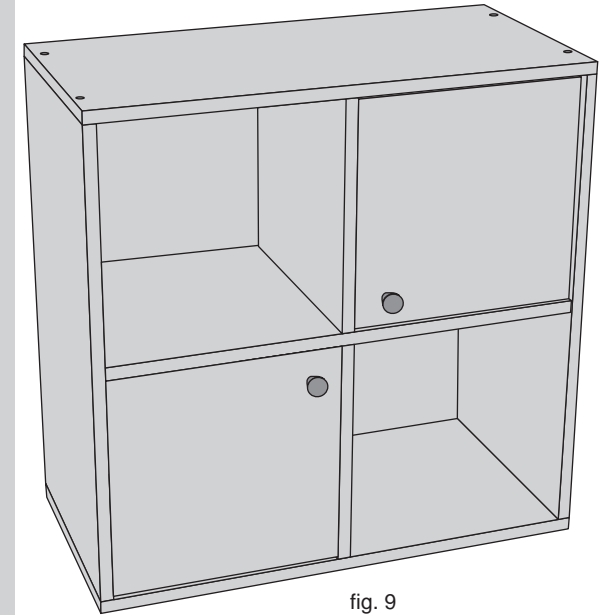

fig. 9
1. Carefully place the unit in the desired location. See fig. 9.